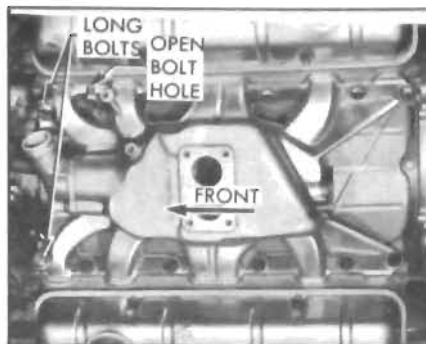

Figure 2-65—Installation of Intake Manifold
17. Install manifold attaching bolt in open bolt hole as shown in Figure 2-65. Open bolt hole is held to close tolerances and the bolt in
18. Install remaining manifold to cylinder head bolts. Longer bolts belong at forward location. Torque bolts alternately and evenly to 25-30 lb. ft. See Figure 2-65.